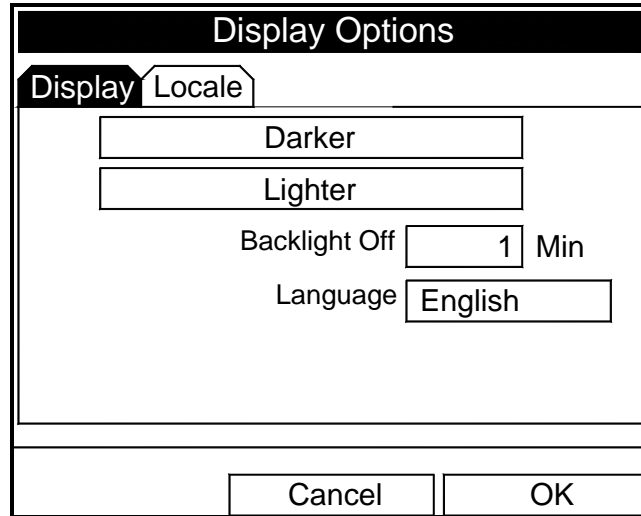

Figure 4-4: Display Options Window - Display Tab
1. From the Meter menu, scroll to the Contrast entry and press [ENTER]. The Display Options window opens on the Display tab, as shown in Figure 4-4 below. (From the Format tab, press the [◀] key to move to the Display tab.) To step through each parameter, press the [▼] key.
1. From the Meter menu, scroll to the Backlight entry and press [ENTER]. The Display Options window opens on the Display tab, as shown in Figure 4-4 on page 4-6.
- To confirm the entries and return to Operate mode, press [F3] (OK). The CTF878 returns to Operate Mode.